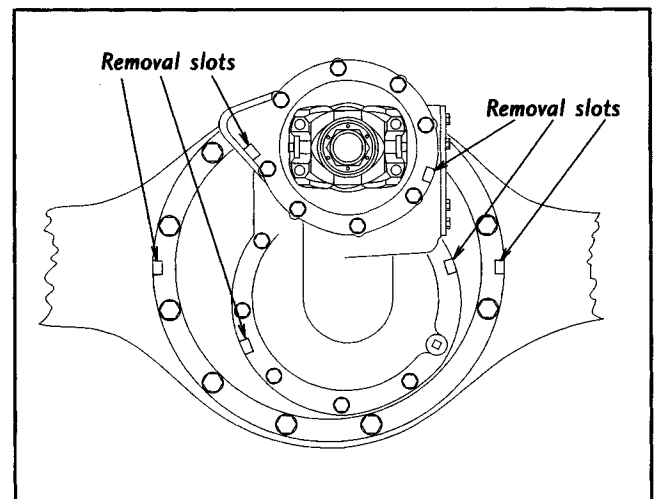

Figure 1
NOTE: Removal slots are provided in the areas shown in the illustration (See Figures 1 & 2). Use suitable pry bar to separate components.
11. Separate differential carrier from the housing using removal slots. (See Figure 1) Be certain carrier is balanced properly on jack, and remove top two carrier-to-housing mounting bolts. Remove differential carrier assembly from the axle housing.
NOTE: Removal slots are provided in the areas shown in the illustration (See Figure 1 & 2). Use suitable pry bar to separate components.